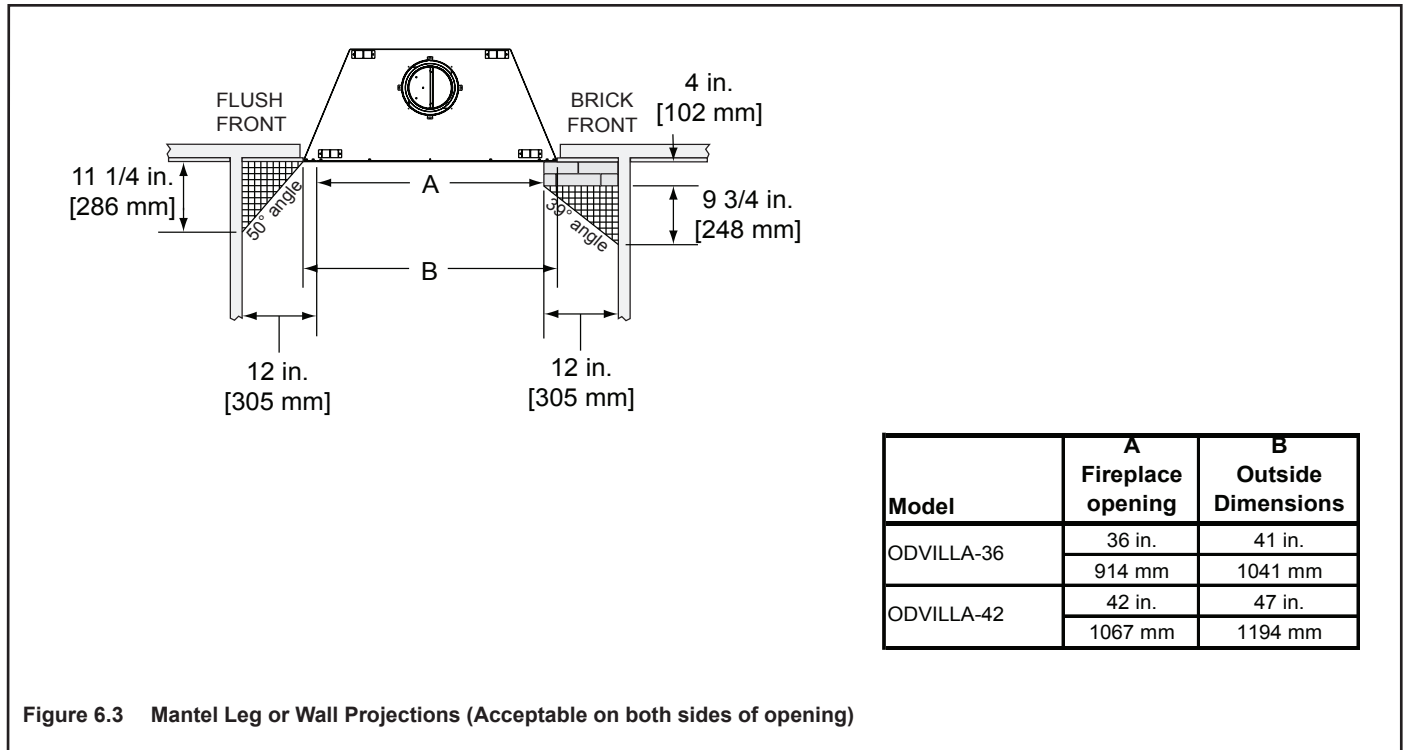

Figure 6.3 Mantel Leg or Wall Projections (Acceptable on both sides of opening)
- Combustible and non-combustible mantel legs, surrounds and stub walls may be constructed within the gridded area, Figure 6.3.